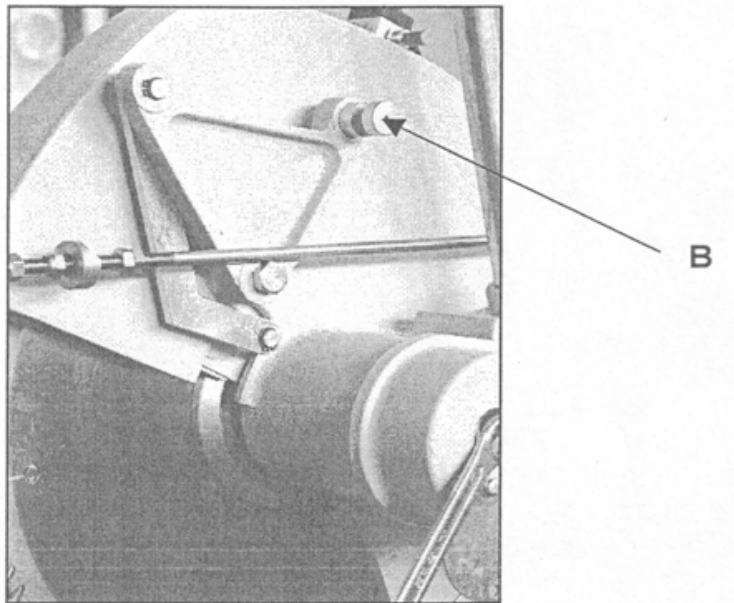

Fig. 10
2. Remove the rod from the pivot fixed on the connecting rod. Lift the yellow guard manually to allow [] to insert a 36mm spanner [] to the blocking screw (Fig. 10 part. B).